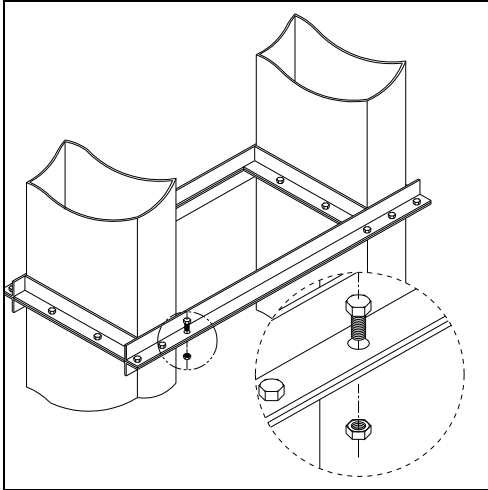

Figure 2-4, Elevator Joint Fasteners
- E. Plumb each elevator section as it is positioned on the preceding section. Attach guying and/or bracing as determined by pre-installation planning. Shim as required to plumb each section and tighten assembly fasteners. **See Figure 2-4.** The elevator shipment included one or more containers of bulk fasteners, sufficient to completely assemble the elevator and any accessories ordered with it. **FASTENERS WERE NOT PROVIDED FOR ASSEMBLY OR ATTACHMENT OF BRACES OR ANY OTHER EQUIPMENT.**